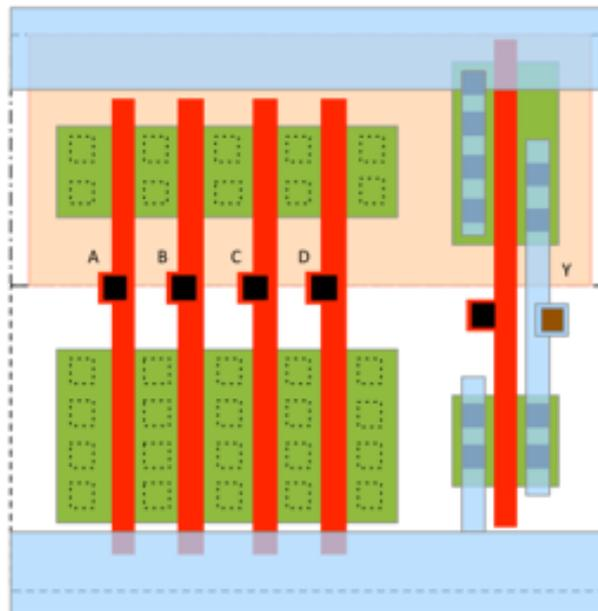

Figure 8.3: Template for 4-input AND gate.
- a) In the cell layout template in Figure 8.3 you see the layout of one inverter to the right. To the left of that inverter is a continuous-line-of-diffusion template. Draw the layout for the 4-input NAND gate there; also connect the output of the NAND gate to the inverter input, thus forming a 4-input AND gate. Draw the layout such that you minimize the number of diffusion areas connected to the output node of the NAND gate. (3p)